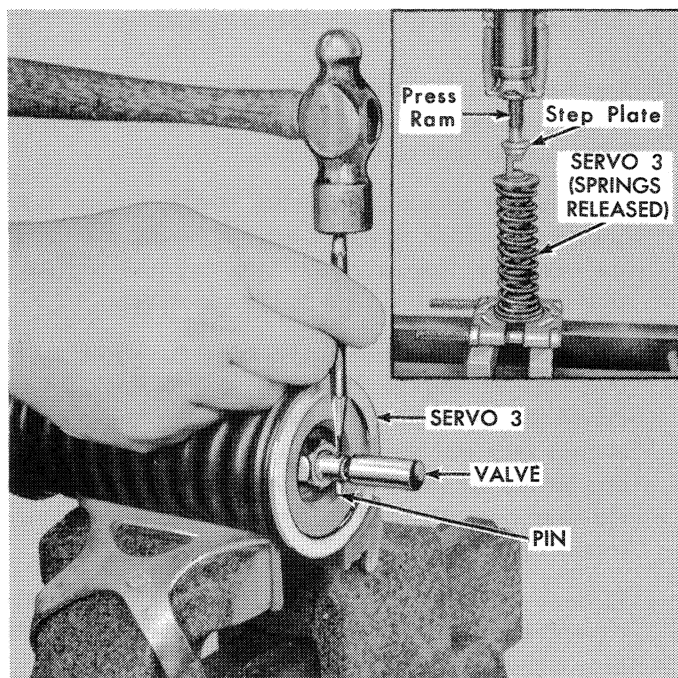

Figure 92
1. Remove the valve from the end of servo 3 by driving out the pin with a suitable punch, as shown in Figure 92.